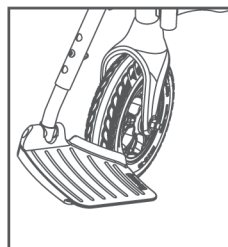
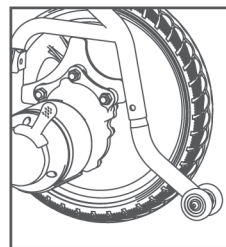

Figure 11
Figure 12
- Adjustment of pedal height: loosen the set screws on the fastener with a hexagon wrench, adjust the pedal to the appropriate height according to the height of the occupant and lock the set bolts, see Figure 11.
- Installation and removal of anti-roll wheel: Hold the marble on the anti-roll wheel with your fingers while installing and insert it into the frame hole until the marble fastens into the marble hole of the wheelchair. While removing, hold the marble with one hand and pull the anti-roll wheel off backwards with the other hand, see Figure 12 (After installation, the anti-roll wheel is about 4cm above the ground).
- Use of movable leg: when the electric wheelchair is provided with a movable leg, turn the movable leg from the position in Figure 11 to the position in Figure 12 along the rotational axis, ensuring that it rotates into the groove of the plastic part and open the pedal; the action sequence is reversed to folding back up. (Note: the function is only